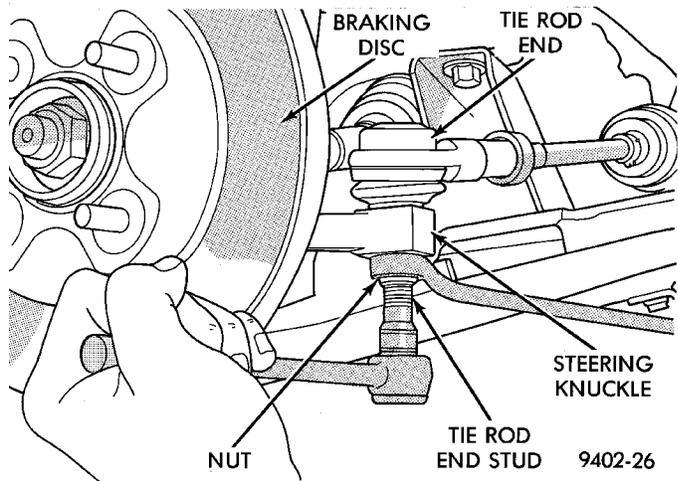
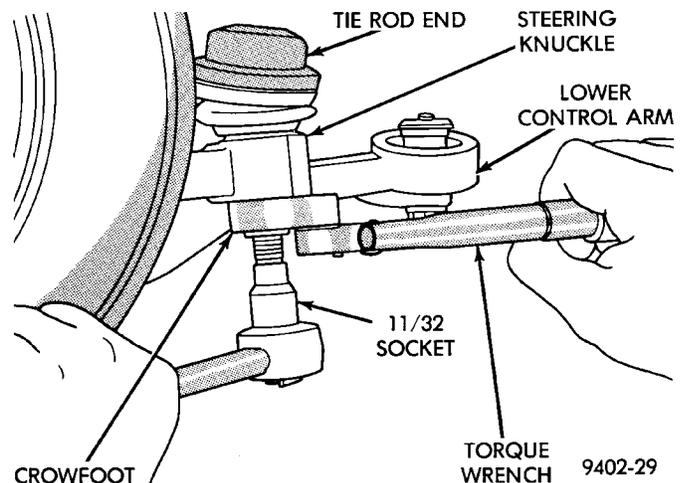

Fig. 6 Removing Tie Rod End Attaching Nut
Fig. 17 Torquing Tie Rod End Attaching Nut
(5) Remove nuts attaching both outer tie rod ends to the steering knuckles (Fig. 6). **Nuts are to be removed from tie rod ends using the following procedure, hold tie rod end stud with an 11/32 socket, while loosening and removing nut with wrench.**
(7) Install tie rod end into the steering knuckle. Start tie rod end to steering knuckle attaching nut onto stud of tie rod end. While holding stud of tie rod end stationary, tighten tie rod end to steering knuckle attaching nut (Fig. 6). Then using a crowfoot and 11/32 socket (Fig. 17), torque tie rod end attaching nut to 55 N-m (40 ft. lbs.).